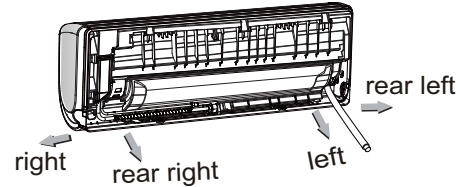

Fig. 8 - Refrigerant Line Routing
The refrigerant lines may be routed in any of the four directions shown in Fig. 8.
2. Remove knockout (see Fig. 8).